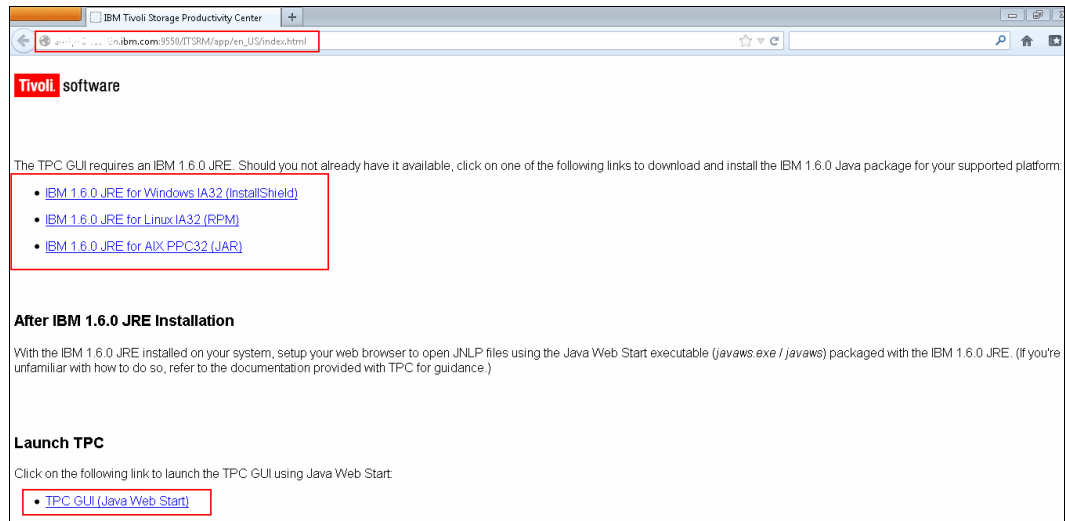

Figure 11-83 Tivoli Storage Productivity Center front page
1. Open your browser and use the following link to start Tivoli Storage Productivity Center, as shown in Figure 11-83: